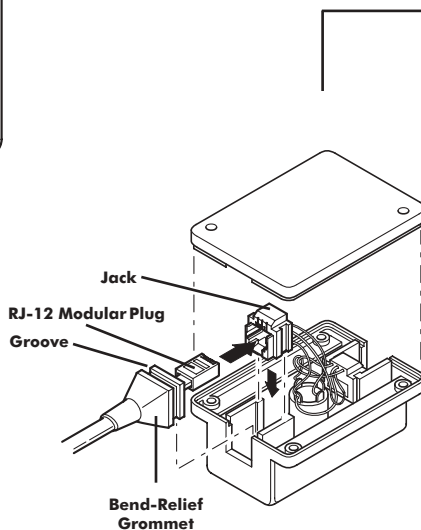

FIGURE 12:
11. Lift the jack slightly out of the HM-10 and insert the RJ-12 Modular Plug into the Jack in the HM-10 as shown in Figure 12.
12. Insert the Bend Relief Grommet into the HM-10 so the groove in the grommet is over the side case of the HM-10 (Figure 12).